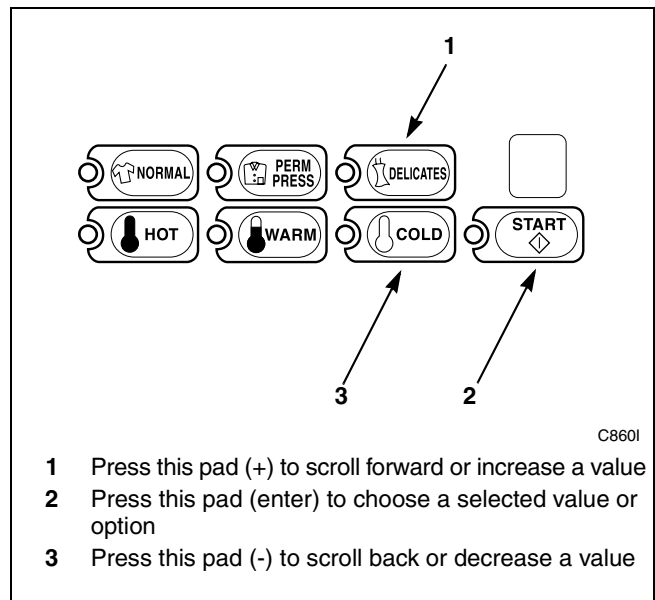

Figure 173
5. Press the DELICATES (+) or the COLD (-) keypad to increase or decrease the current number to the desired number selected from *Table 6*. Refer to *Figure 173*.